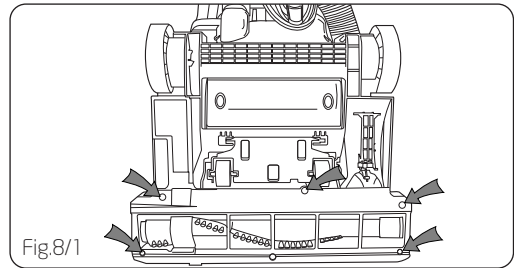

Fig.8/1
1. Unwrap hose from caddy. Twist and unlock to remove clogs. Clean out hose with a broom handle. Check access door on back of cleaner (near hose end). Remove the seven (7) screws and check for obstruction (Fig.8/1).